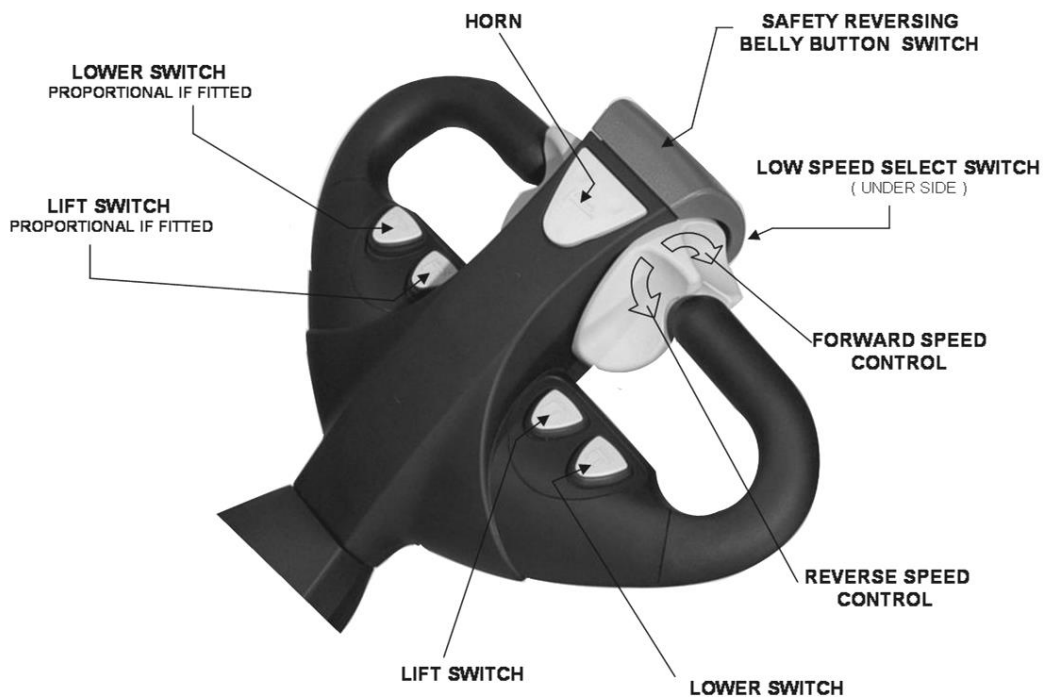
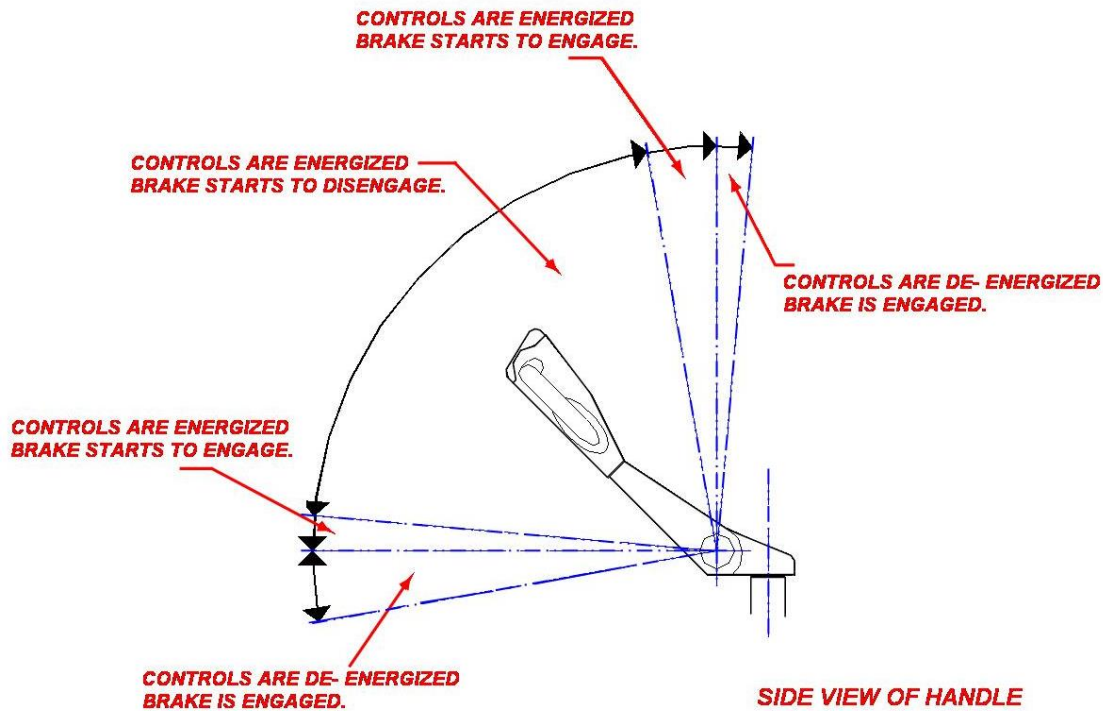

Figure 1: HANDLE CONTROLS
Figure 2: ELECTRIC BRAKE
3.2. DRIVING AND STOPPING PROCEDURES (Ref to Figure 1, Figure 2)